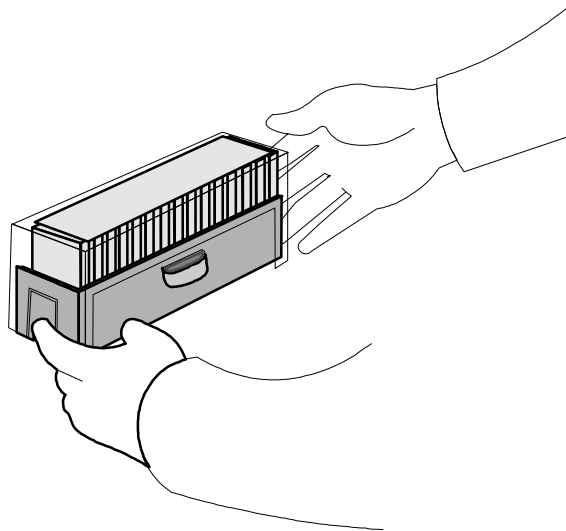

Figure 9. Removing the Magazine Dust Cover
- Remove the magazine cover. You can remove the cover by pressing the middle of both ends (where it is labeled PUSH) and lifting up (see Figure 9).